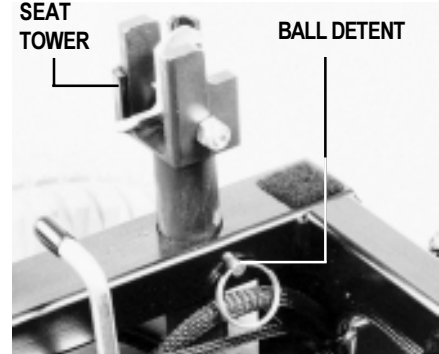

Figure 14. Seat Height
5. Remove the ball detent pin from each of the four seat posts. See figure 14.